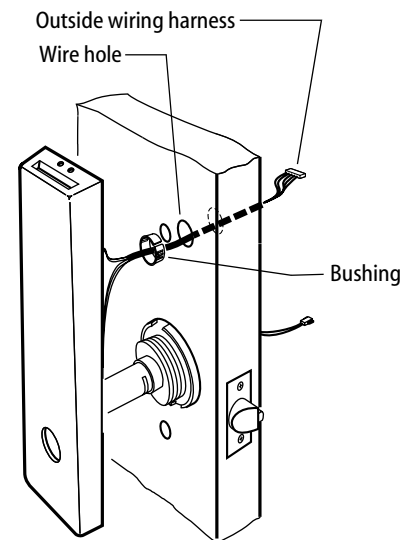
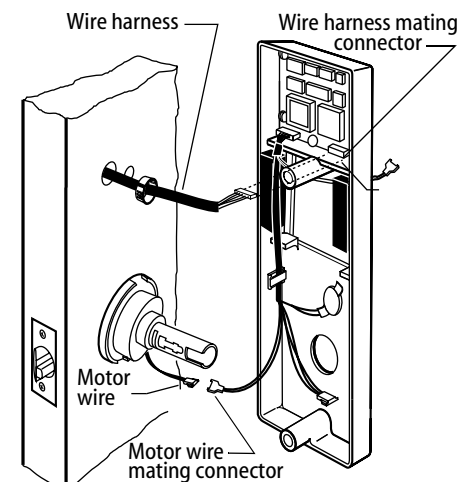

Figure 9
Figure 10
- 1 Insert the bushings into the wire hole, as shown in Figure 9 and Figure 10.
- 2 Feed the outside wire harness connector through the top wire hole (Figure 9).
- 4 From the inside of the door, connect the motor connector to the mating connector from the circuit board (Figure 10).